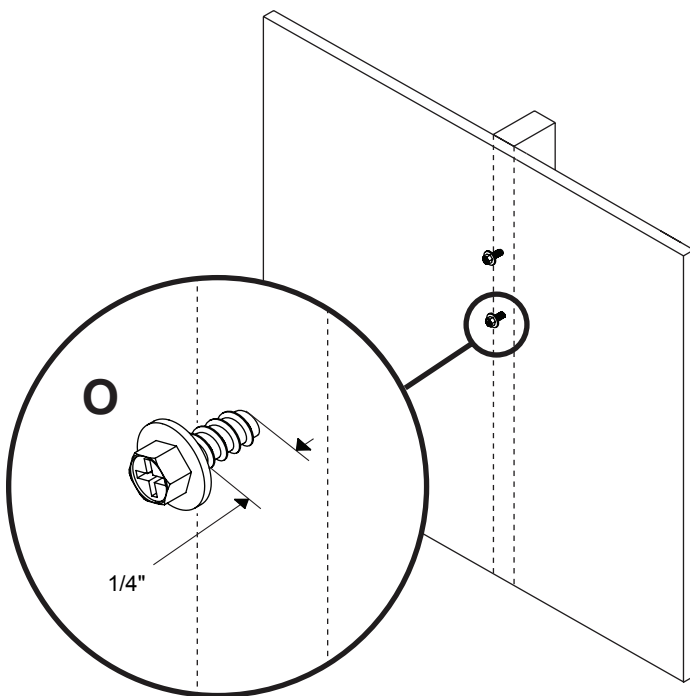
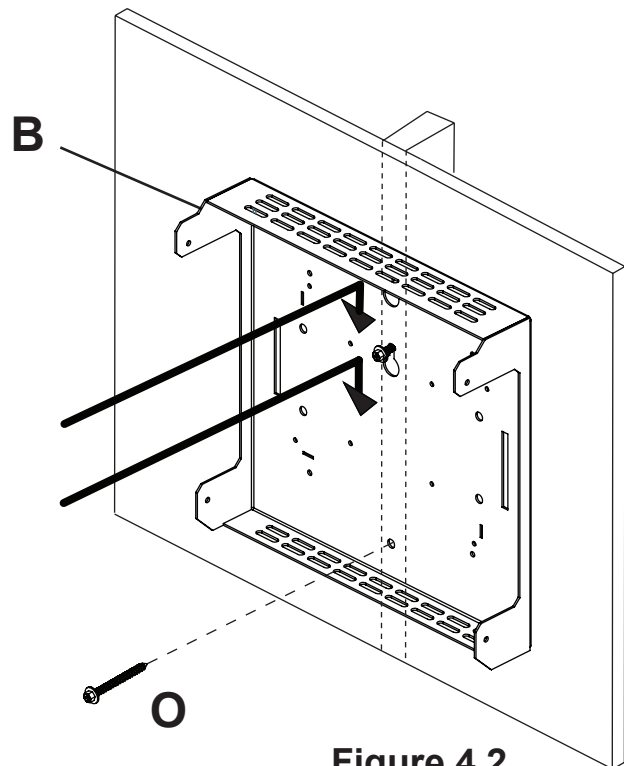

Figure 4.1
Figure 4.2
- 4** Use a stud finder to locate the edges of the stud. Use of an edge-to-edge stud finder is highly recommended. Based on their edges, draw a vertical line down each stud center. Place wall plate (**B**) on wall as a template. Level, and mark the center of the three mounting holes. Make sure that the mounting holes are on the stud center lines. Drill three 5/32" (4 mm) dia. holes 2.5" (64 mm) deep. Fasten two #14 x 2.5" wood screws (**O**) leaving 1/4" of thread exposed as shown in Figure 4.1. Hook wall plate (**B**) onto exposed #14 x 2.5" wood screws (**O**). Secure using one #14 x 2.5" wood screws (**O**) as shown in figure 4.2